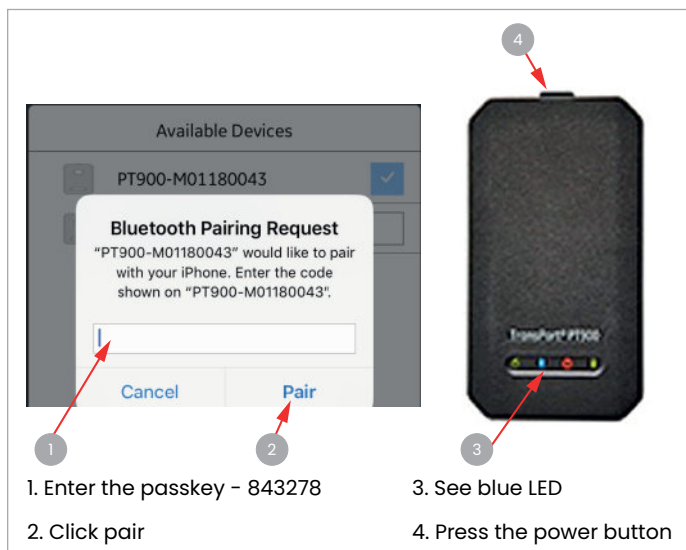

Figure 69: Confirm the pairing
11. During the pairing process, PT900 security features require the user to confirm the pairing (see Figure 69 below). When the Bluetooth pairing request appears on the tablet, enter the passkey and click pair. Then, confirm that the blue LED on the transmitter is flashing and click the transmitter power button within 10s. Passkey for this device is 843278.